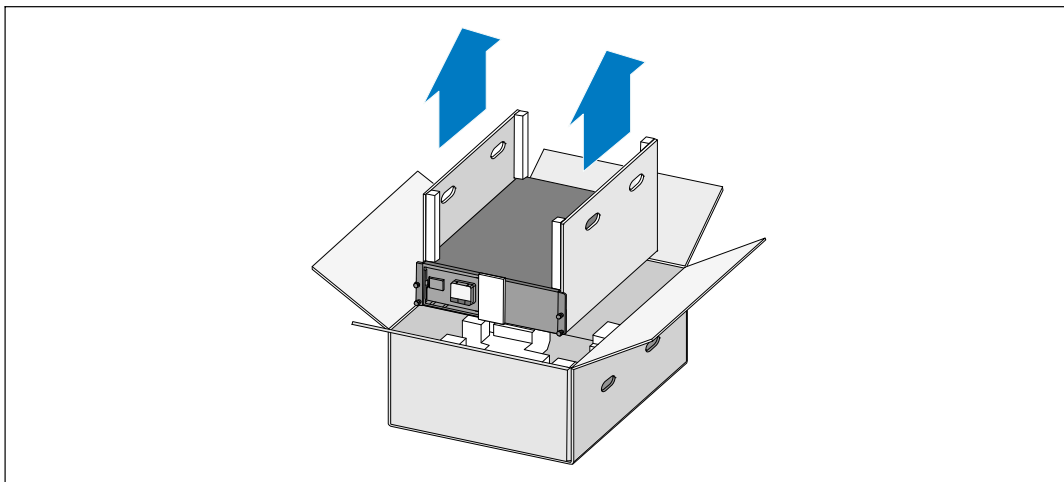

Figure 3. Lifting the Cabinet
- 2 With one person on each side, carefully lift the cabinet out of the outer carton using the handles on the cardboard and set it on a flat, stable surface (see Figure 3).